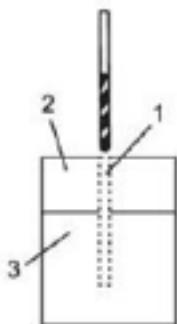

Fig.5
1. Clamp components that are to be screwed together in their desired position (Fig. 5).
2. Drill a pilot hole (1) through the outer piece (2) and into the inner piece (3). Drill hole 2/3 the diameter of the smooth portion of the screw shank.